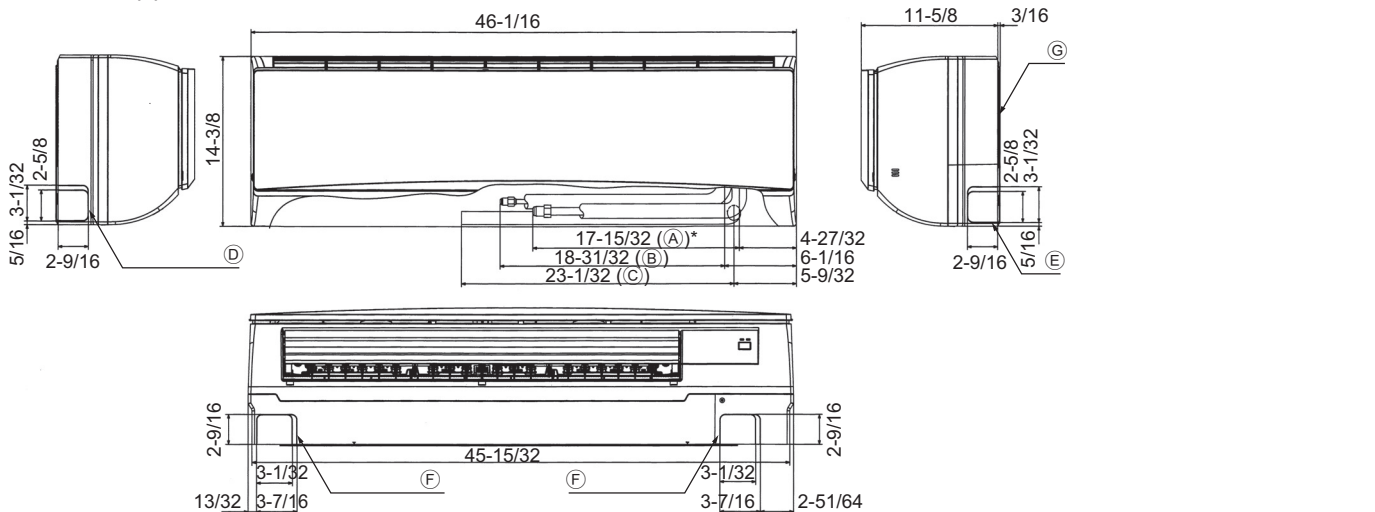
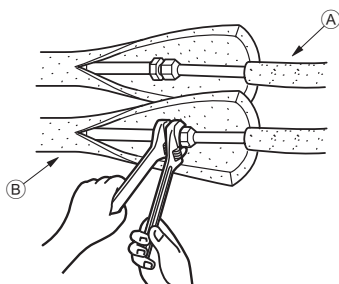

Fig. 4-2
Fig. 4-3
4.3. Positioning refrigerant and drain piping (Fig. 4-2)
- (A) Gas pipe * Indicates the condition with accessories mounted.
- (B) Liquid pipe
- (C) Drain hose
- (D) Left-side piping knockout hole
- (E) Right-side piping knockout hole
- (F) Lower piping knockout hole
- (G) Mount board ①
4.4. Refrigerant piping (Fig. 4-3)